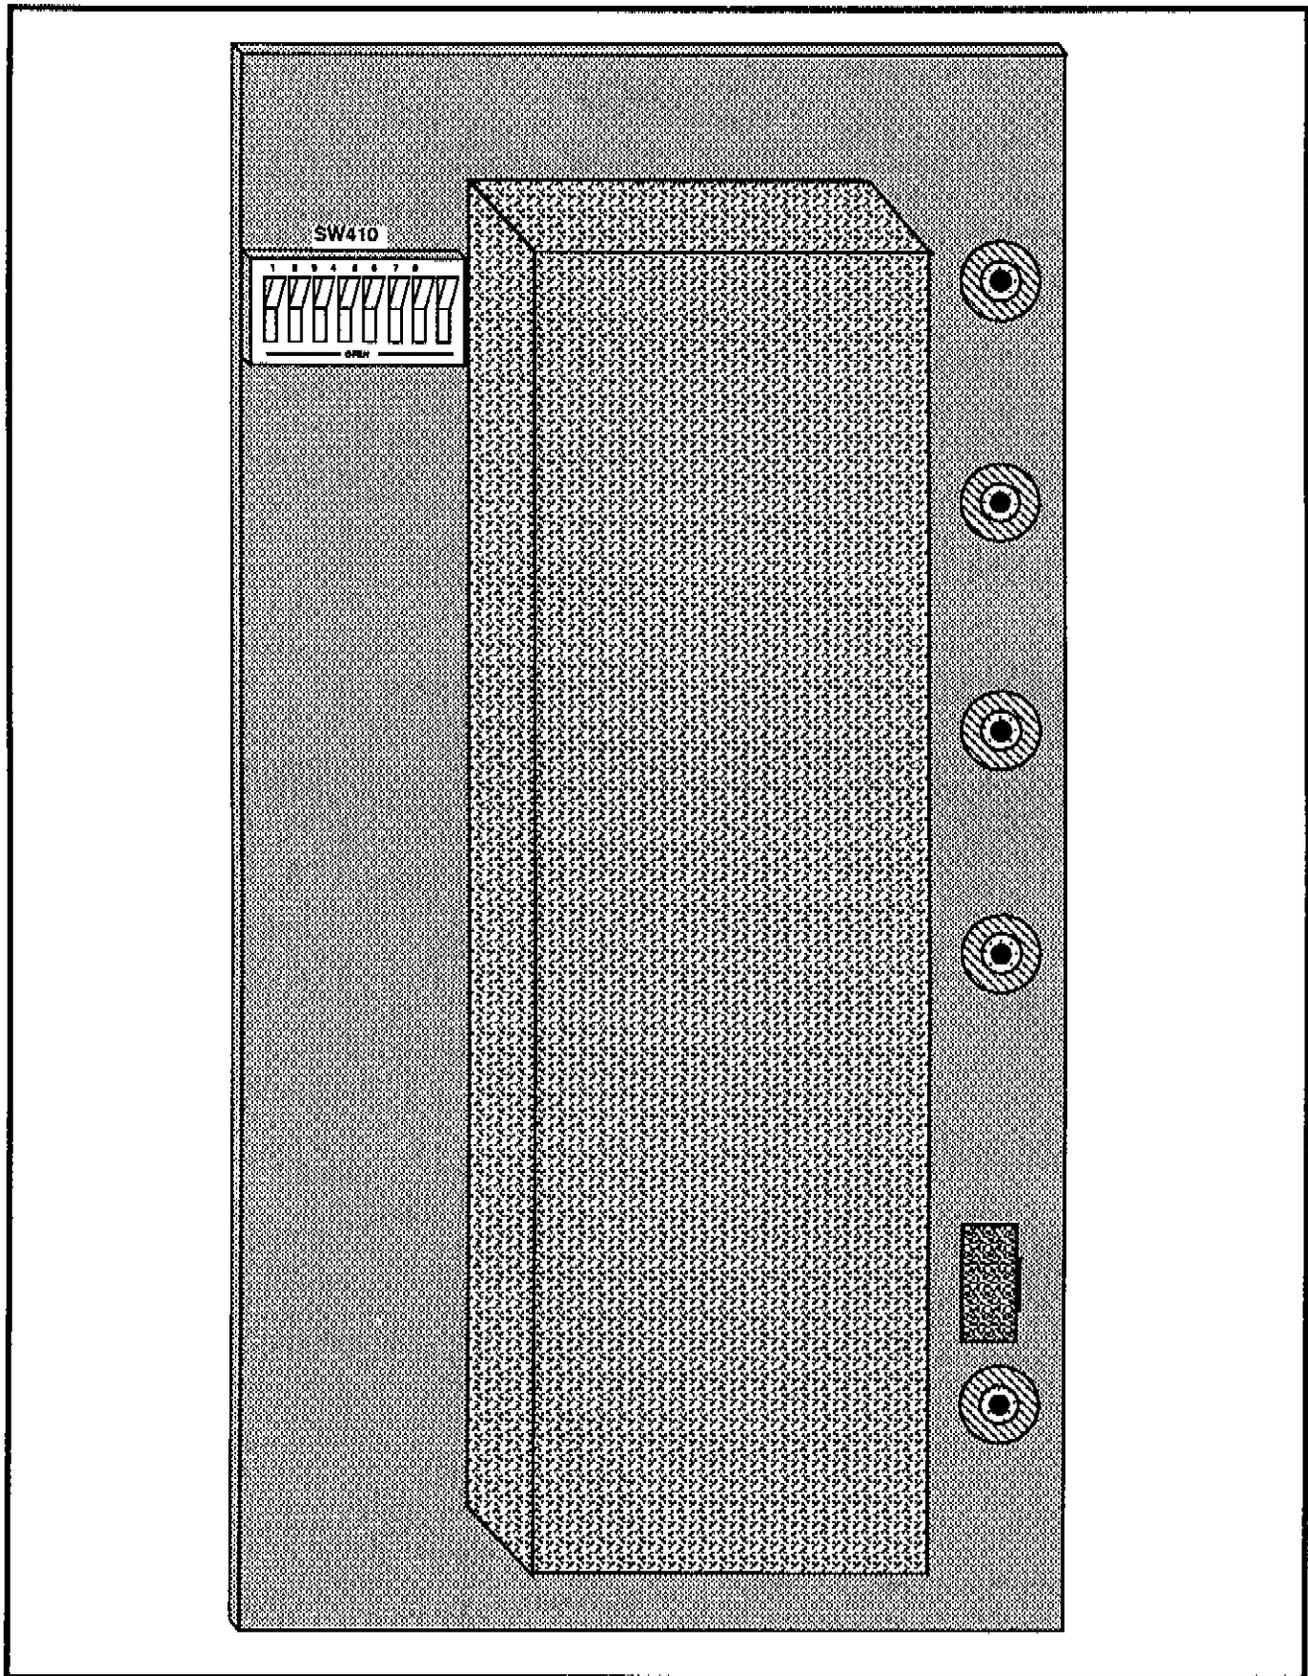

Figure 4-14. SW410 on the Reference Oscillator board.
- v. Set SW410 (Figure 4-14) switches on the Reference Oscillator board for the frequency difference noted in part iv. The frequency difference is set by opening equivalent switches in SW410 for the desired value. See Table 4-3.